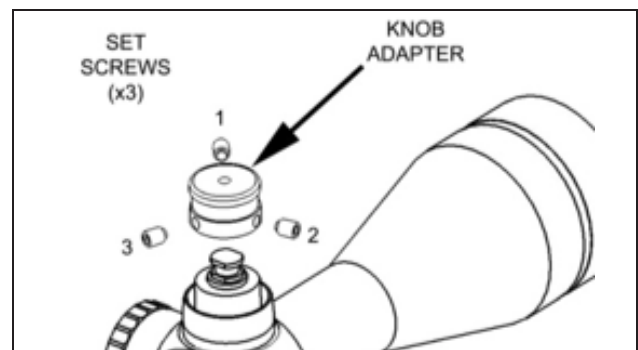

Figure 2.
2. Place the knob adapter over the elevation post. Apply slight downward pressure to ensure that all set screws are seated below the outside diameter of the knob adapter and tighten evenly to 12 in/lbs. Use Loctite® if desired. Figure 2.